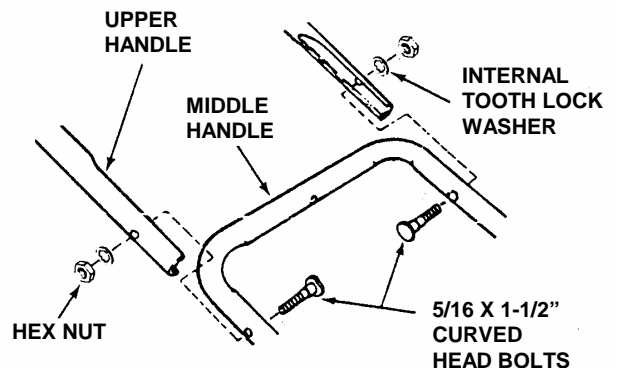

FIGURE 3
STEP 3: Attach the upper handle assembly to the middle handle using 5/16-18 x 1-1/2" curved head bolts, installed from the inside of handles as shown, and secure with 5/16 internal tooth lock washers and hex nuts. Do Not tighten at this time. See Figure 3.